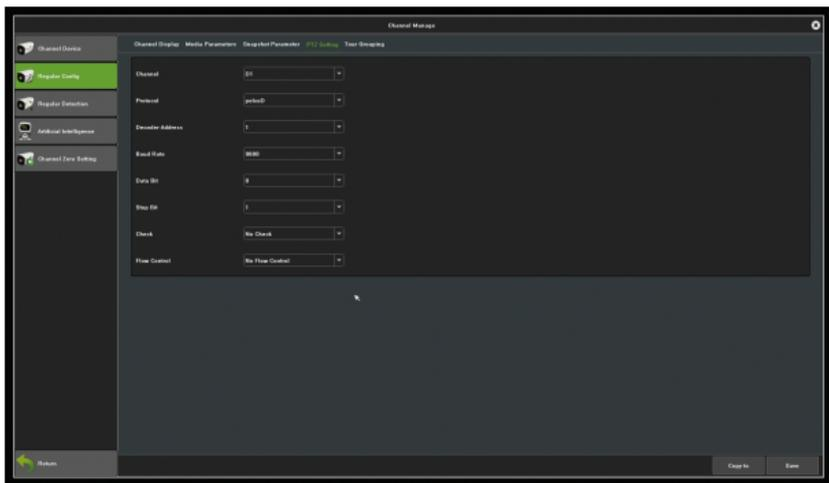

Figure 7.9 Interface of PTZ General Settings
- 1) Enter the PTZ Setting interface as shown in Figure 7.9.